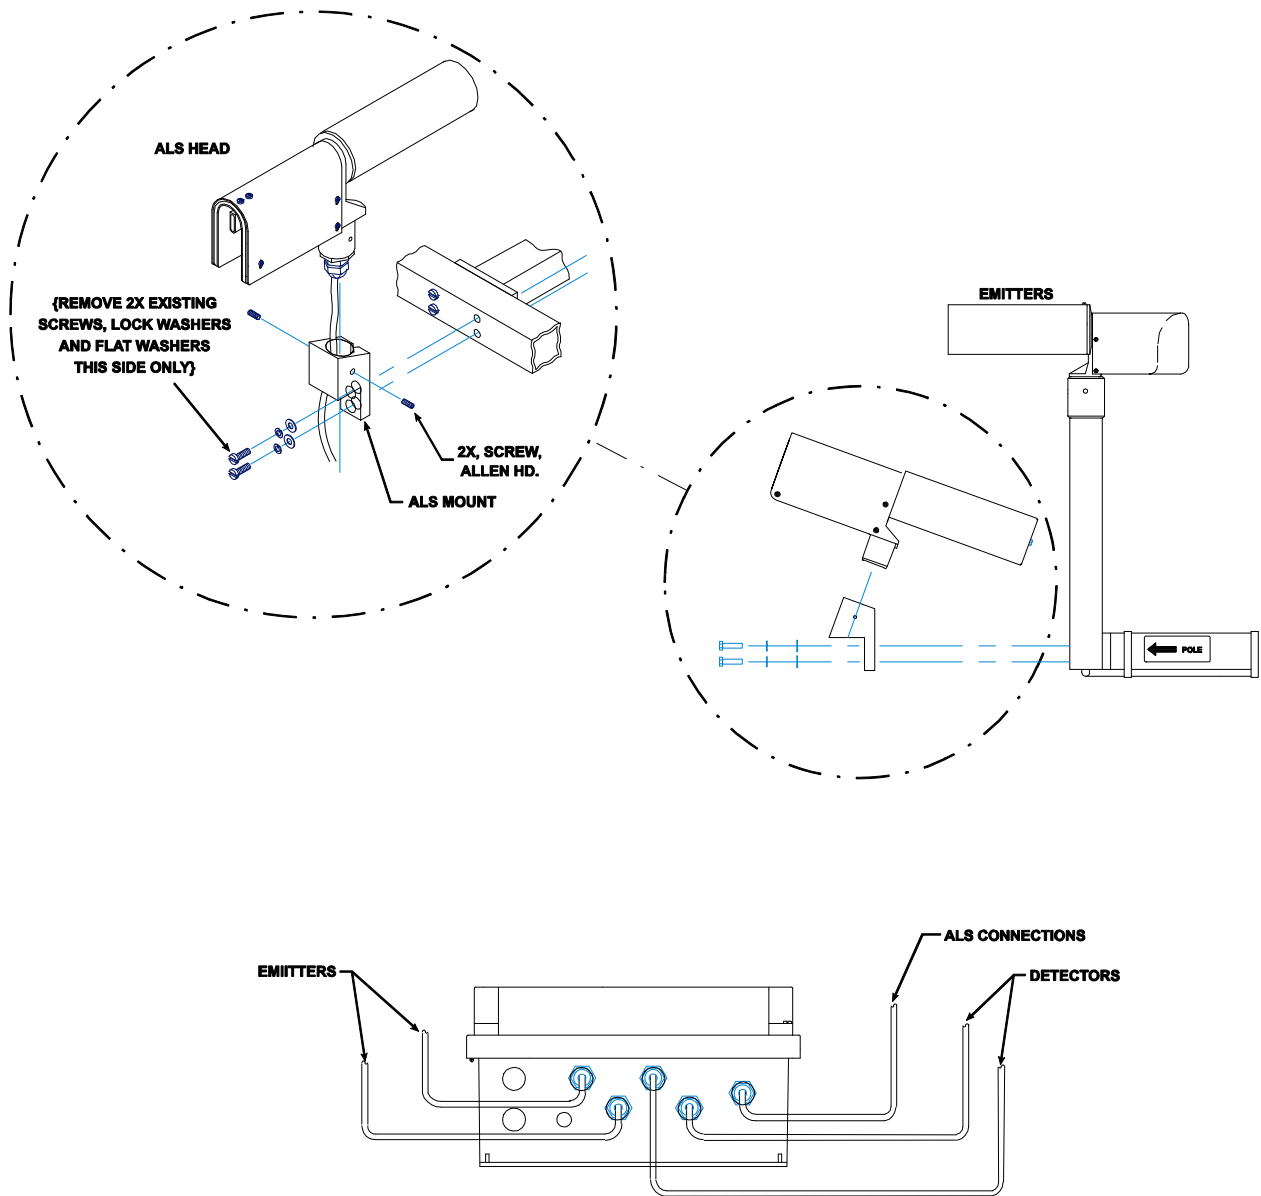

Figure 2-16. ALS sensor installation.
1. Remove two existing screws, lock washers, and flat washers from the emitter upright crosspiece as shown in **Figure 2-16**.
5. Install a strain relief in the top right hole of the enclosure (when seen from below, as in **Figure 2-16**).
7. Route the cable through the nut, washer, and grommet by folding the cable back over the connector, then bending the cable 90° so that the profile of the cable end and connector is small enough to fit through the nut and strain relief (see **Figure 2-16**).